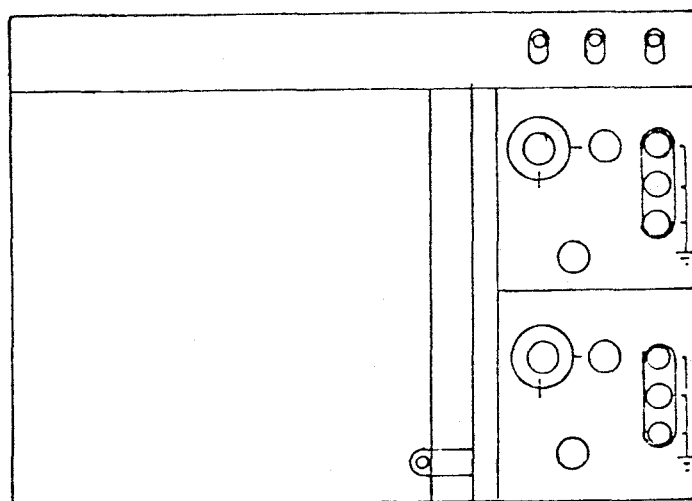

Figure 11
7. Push the FUNCTION SELECTOR BUTTON once again to select the next calibration function, $Y=0; X=1$. The plotter pen should move to the lower right hand corner of the paper or field of interest as demonstrated by Figure 11 below.